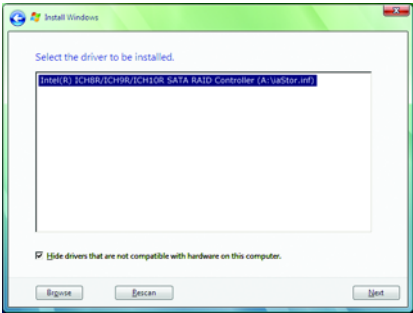

Figure 8
When a screen as shown in Figure 8 appears, select **Intel(R) ICH8R/ICH9R/ICH10R SATA RAID Controller** ^(Note) and press **Next**.
(Note) The item displayed in Figure 8 will be shown as **Intel(R) ICH10R SATA AHCI Controller** when the SATA controllers are set to AHCI mode.